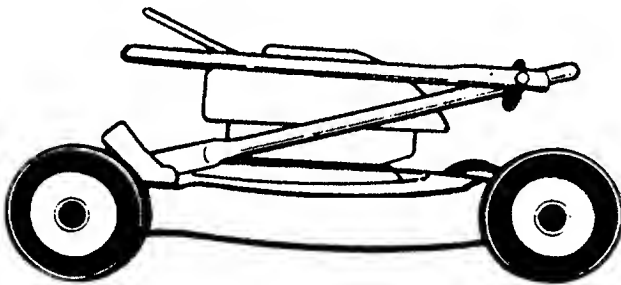

FIGURE 17.
- You can fold your mower's handle for storage as shown in figure 17. Remove the starter rope from the rope guide. Loosen the two hand knobs on the sides of the handle, and let the upper handle fold down to the rear. Move the hairpin clips to the outer hole in the weld pins on the handle mounting brackets. Refer to figure 3. Spread the sides of the lower handle, and push it forward and down.